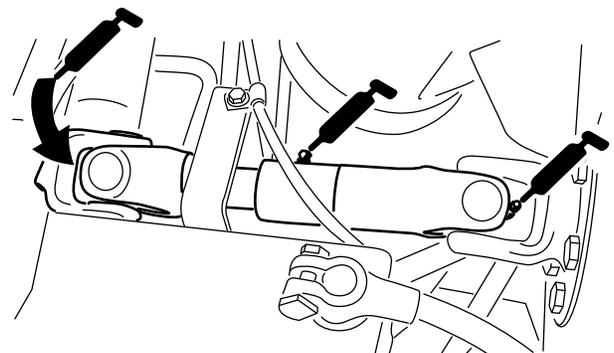

Figure 41
- Pump drive shaft U-joint (3) (Figure 41)